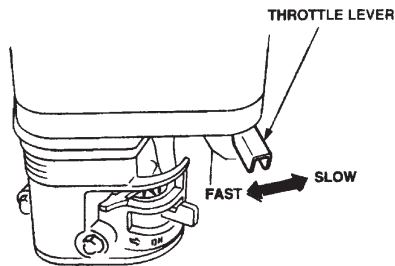

Figure 27. Throttle Lever
- Rotate the **throttle lever** (Figure 27) halfway between **fast** and **slow** for starting. All cutting is done at **full throttle**. The engine governor speed is factory set to ensure optimum blade operating speeds.